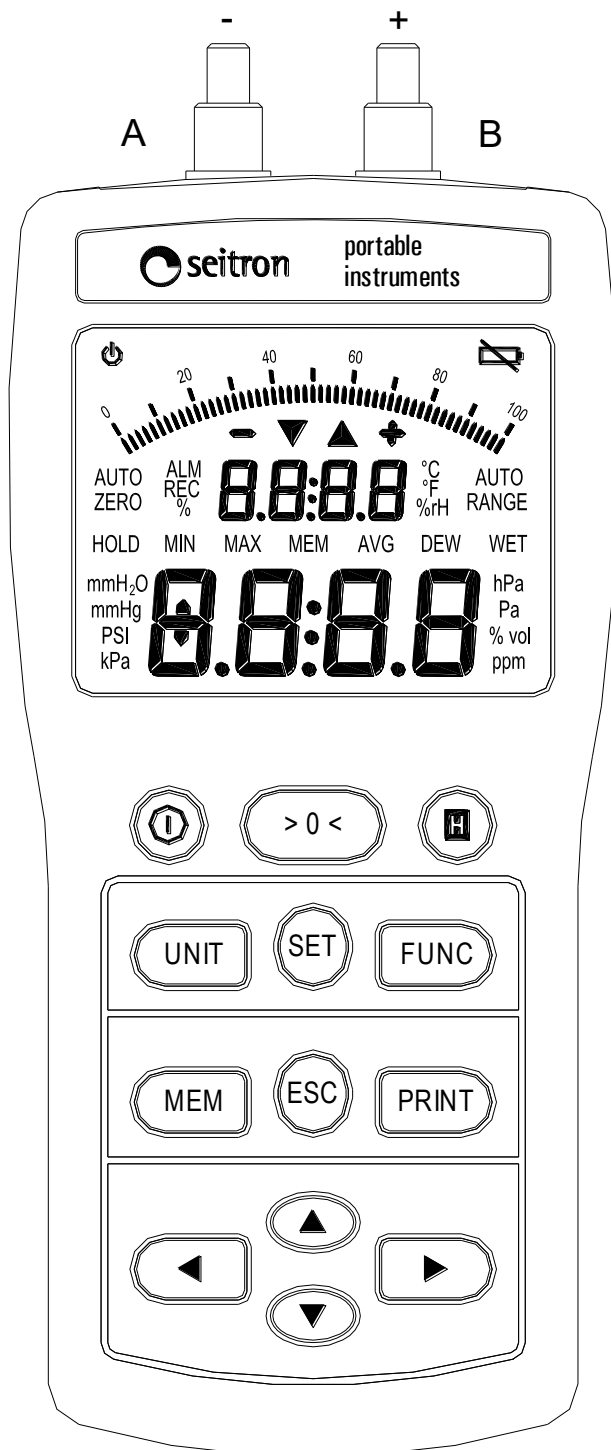

Fig. 1: External appearance.
- Connect silicon tubes (supplied) to the instrument's input (b in fig. 1) and output (a in fig. 1).